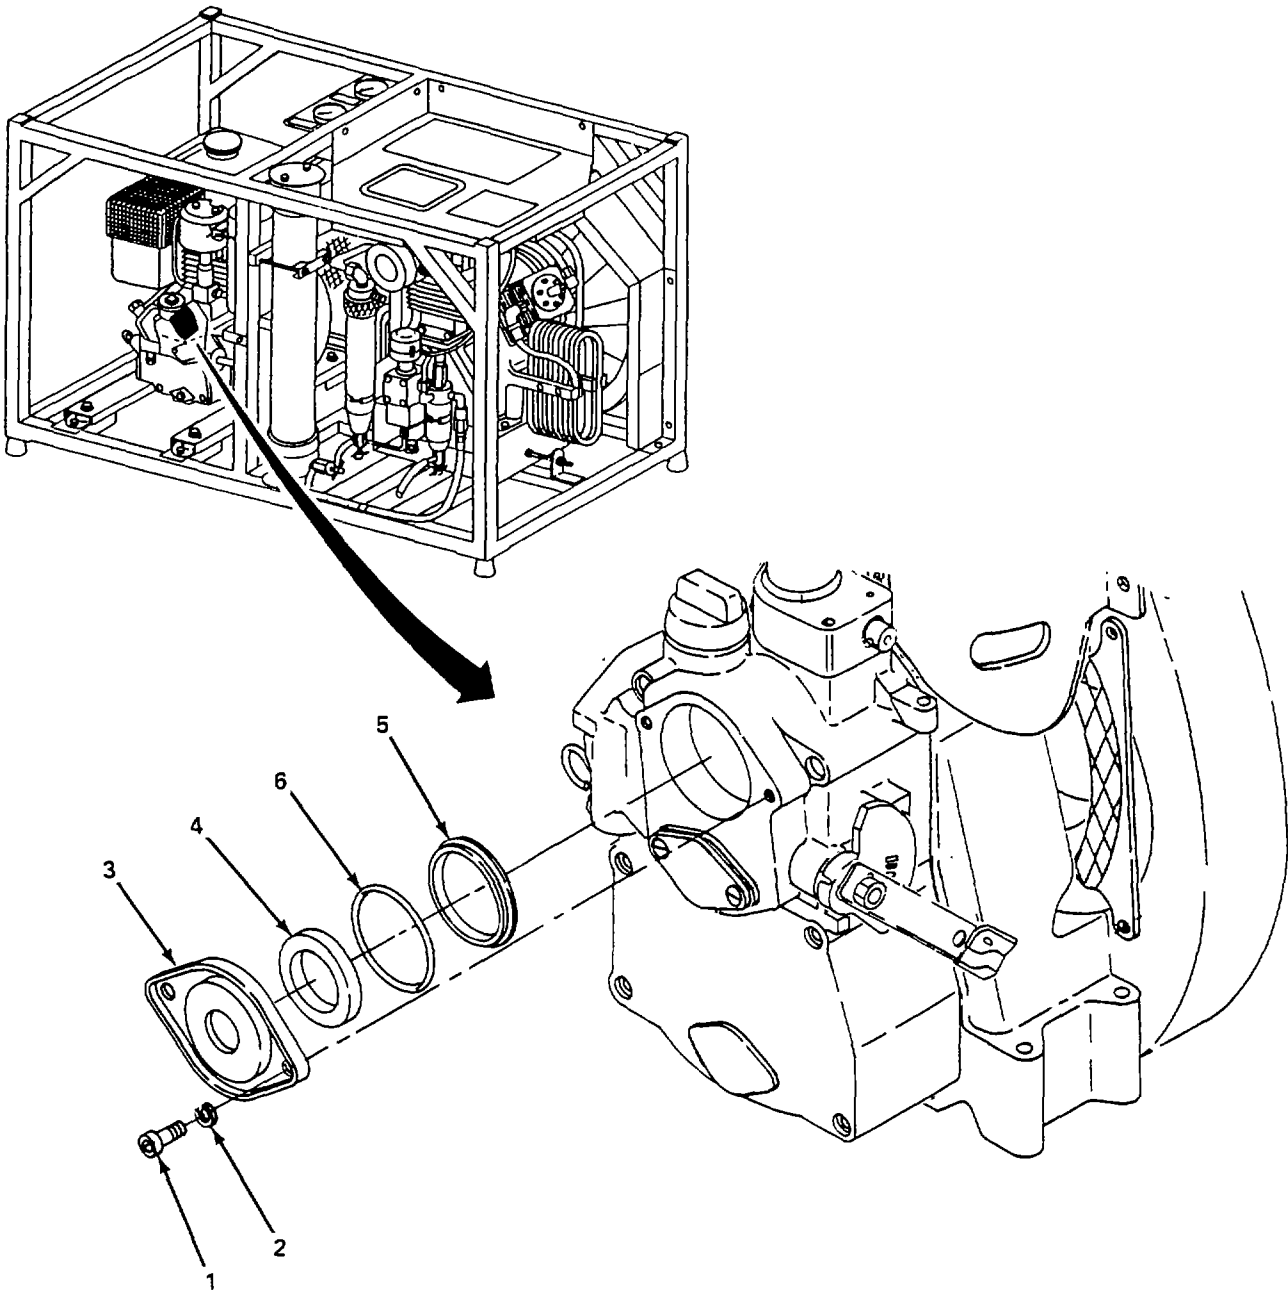

Figure 4-28. Crank Handle Guide, Replace.
- (1) *Replace crank handle guide assembly.* (figure 4-28).
- (a) Remove two screws (1), washers (2), crank handle guide (3), and oil seal (4).
- (b) Remove preformed packing retainer (5) and preformed packing (6). Discard preformed packing (6).
- (c) Install new preformed packing (6) and preformed packing retainer (5).
- (d) Install oil seal (4), crank handle guide (3), and secure with two screws (1) and washers (2).